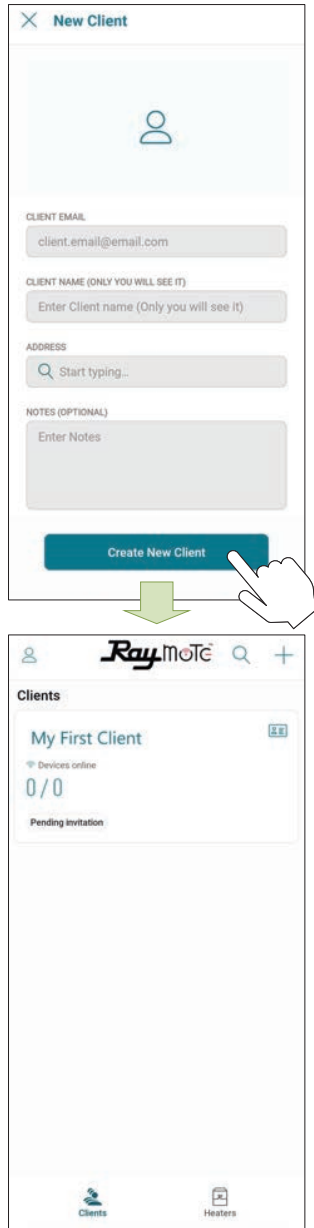

Figure 114. Enter Client Email and Invite
5. When ready, press **[Create new client]**. An Raymote invite email will be sent to your new client. See Figure 114.